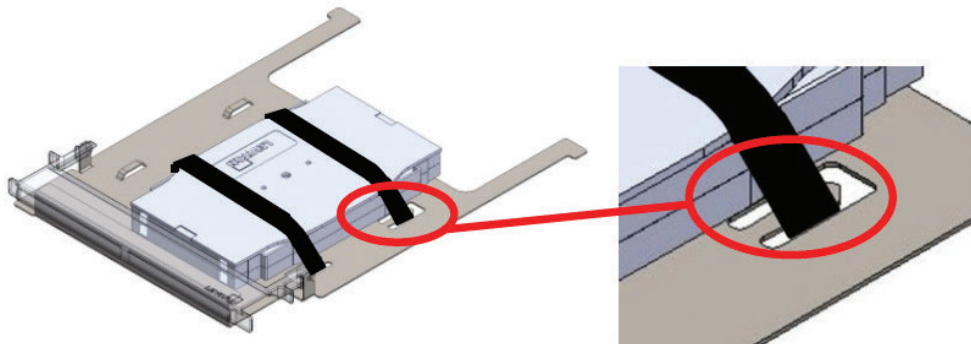

Figure 17
- 5.7.5 Install the Velcro by inserting the loops over each arrow lance point and secure the splicing tray stack to the splice deck tray (Figure 17).